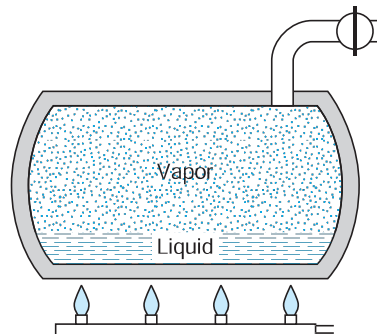

FIGURE P6.120
- 6.120** A 200-L tank (see Fig. P6.120) initially contains water at 100 kPa and a quality of 1%. Heat is transferred to the water, thereby raising its pressure and temperature. At a pressure of 2 MPa, a safety valve opens and saturated vapor at 2 MPa flows out. The process continues, maintaining 2 MPa inside until the quality in the tank is 90%, then stops. Determine the total mass of water that flowed out and the total heat transfer.